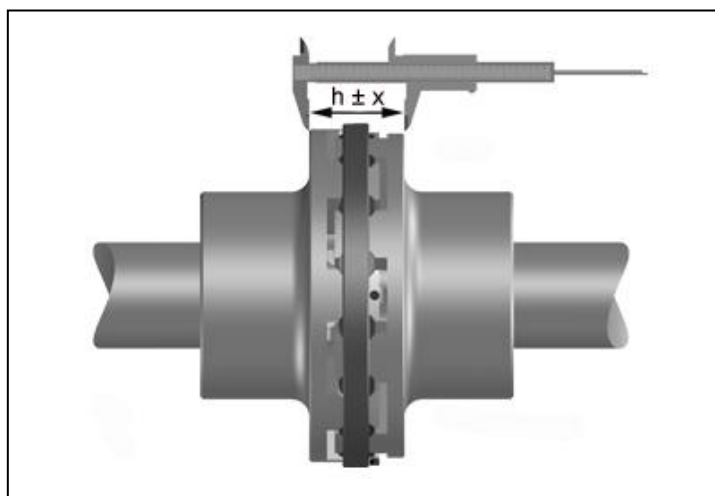

Fig. 8
- Measure the axial flange distance  $h$  according to fig. 8.